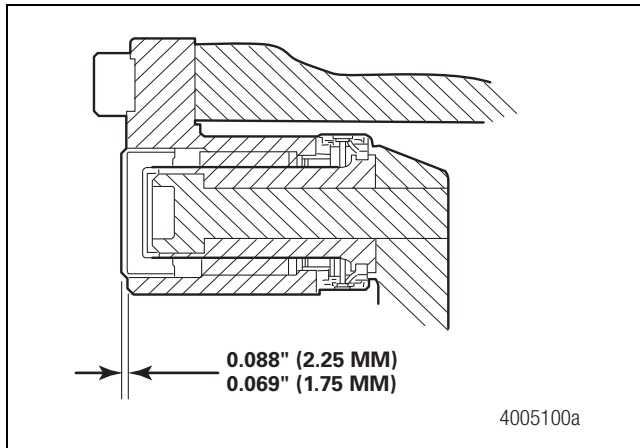
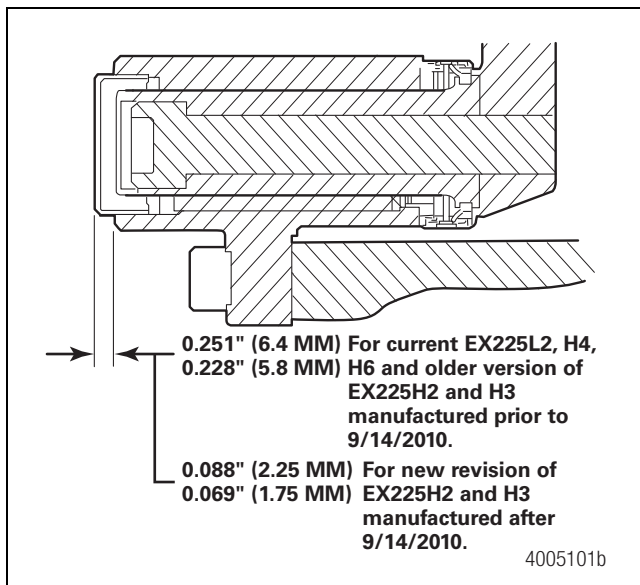

Figure 5.55
Figure 5.56
If you are installing a new housing, use a copper-faced mallet to carefully tap one of the new end caps into the caliper housing assembly until it retains itself. Use the correct size tool to tap the end cap into the bore 0.069-0.088-inch (1.75-2.25 mm) for the short slide pin side, Figure 5.55, and 0.228-0.251-inch (5.8-6.4 mm) for the long slide pin side, Figure 5.56. The caps must be installed to the correct depth.
**For the new revision of EX225H2 and H3 manufactured after 9/14/2010.** If you are installing a new housing, use a copper-faced mallet to carefully tap one of the new end caps into the caliper assembly until it retains itself. Use the correct size tool to tap the end caps into the bore 0.069-0.088-inch (1.75-2.25 mm) for the short slide pin side, Figure 5.55, and 0.069-0.088-inch (1.75-2.25 mm) for the long slide pins Figure 5.56. The caps must be installed to the correct depth.